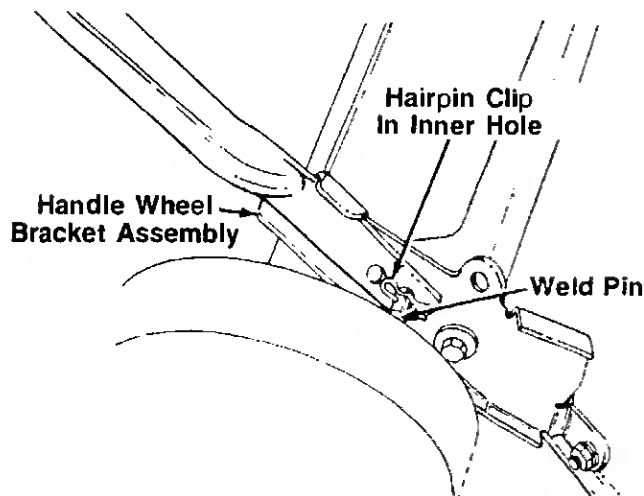

FIGURE 1.
3. Using a pair of pliers, squeeze one leg of the lower handle against the handle mounting bracket. Insert the hairpin clip into the inner hole on the weld pin. See figure 1. Repeat on other side.